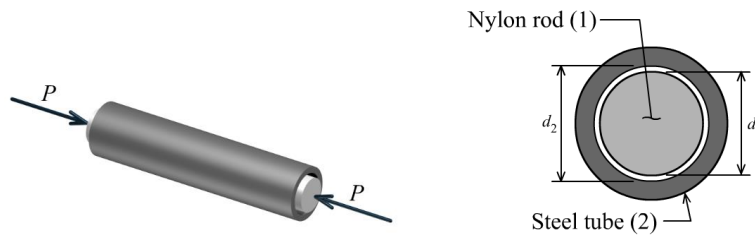

FIGURE P3.7
P3.7 A nylon [$E = 360$ ksi; $\nu = 0.4$] rod (1) having a diameter of $d_1 = 2.50$ in. is placed inside a steel [$E = 29,000$ ksi; $\nu = 0.29$] tube (2) as shown in Figure P3.7. The inside diameter of the steel tube is $d_2 = 2.52$ in. An external load P is applied to the nylon rod, compressing it. At what value of P will the space between the nylon rod and the steel tube be closed?